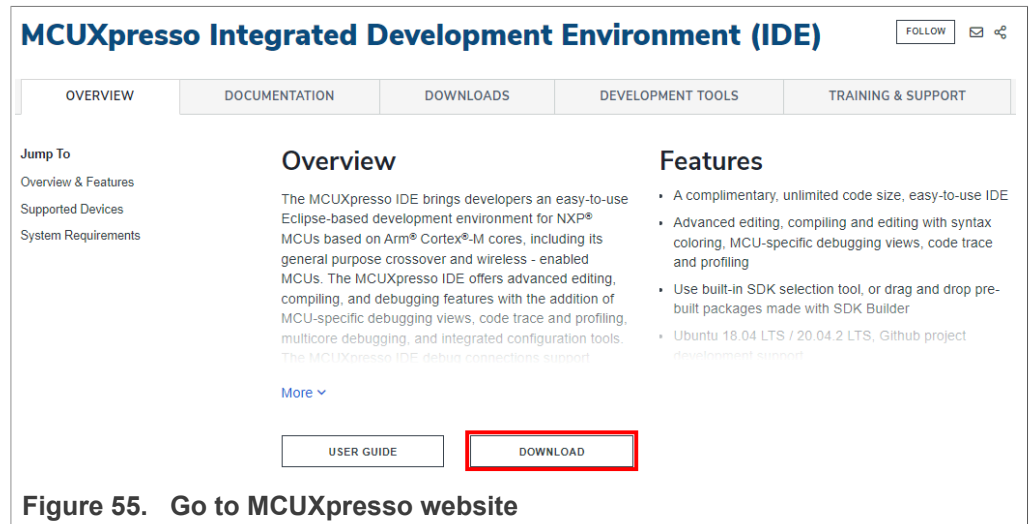

Figure 55. Go to MCUXpresso website
1. Go to MCUXpresso and click the download button as indicated in Figure 55: